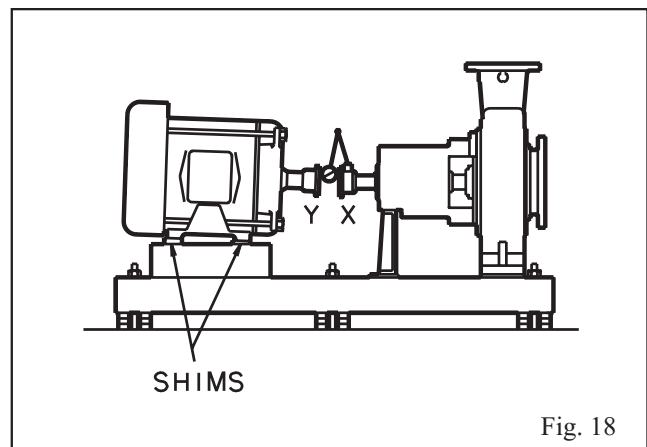

Fig. 18
3. **Negative Reading** - The coupling halves are further apart at the bottom than at the top. Correct by either raising the driver feet at the shaft end (add shims) or lowering the driver feet at the other end (remove shims) (Fig. 18).